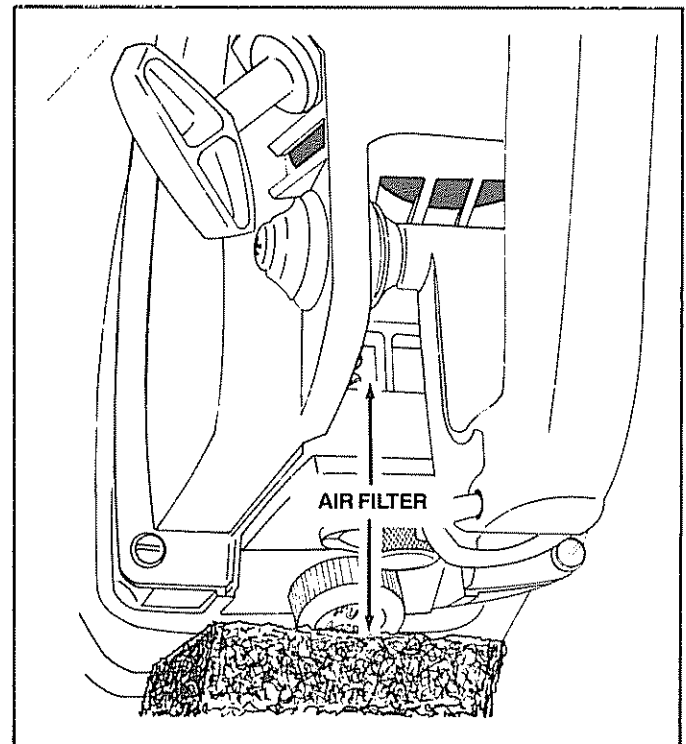

Figure 15
1. Remove the air filter (located above the control panel; see Figure 15).